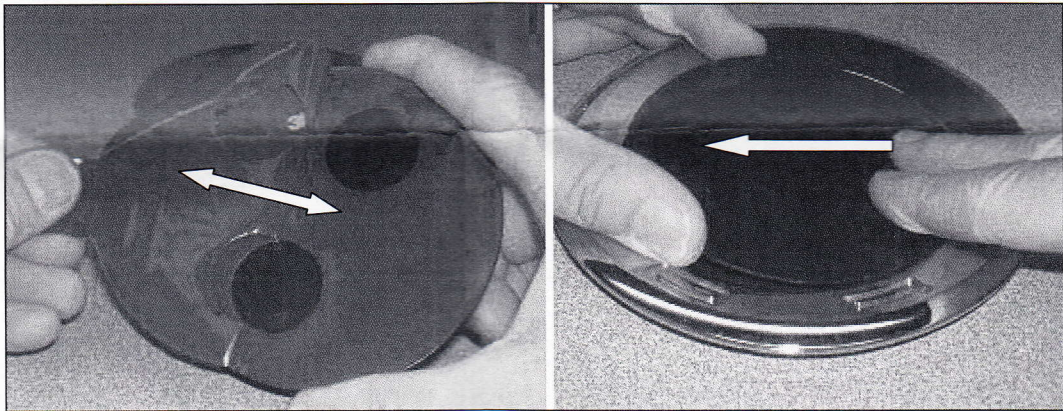

Figure 6
7. Flip the chrome ring over. Peel the red backing paper from the Die Cut Spacer. Avoid finger contact to the adhesive. Apply the spacer to the chrome ring as shown in Figure 6.